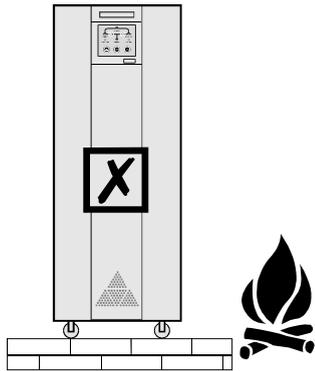

Figure 7
4. Please keep away from fire source and high temperature to avoid over-high temperature. (Figure 7)